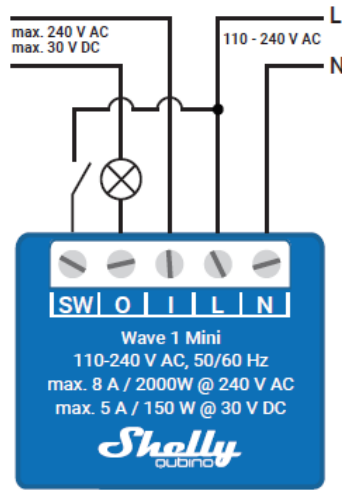

Fig.1/
as shown in Fig.1.
For the installation instructions, refer to the wiring schemes (Fig. 1) in this user guide.
- Connect the load circuit to the Device I/O terminals. Connect the Live wire to the Device L terminal, and the Neutral wire to the N terminal as shown in Fig. 1.